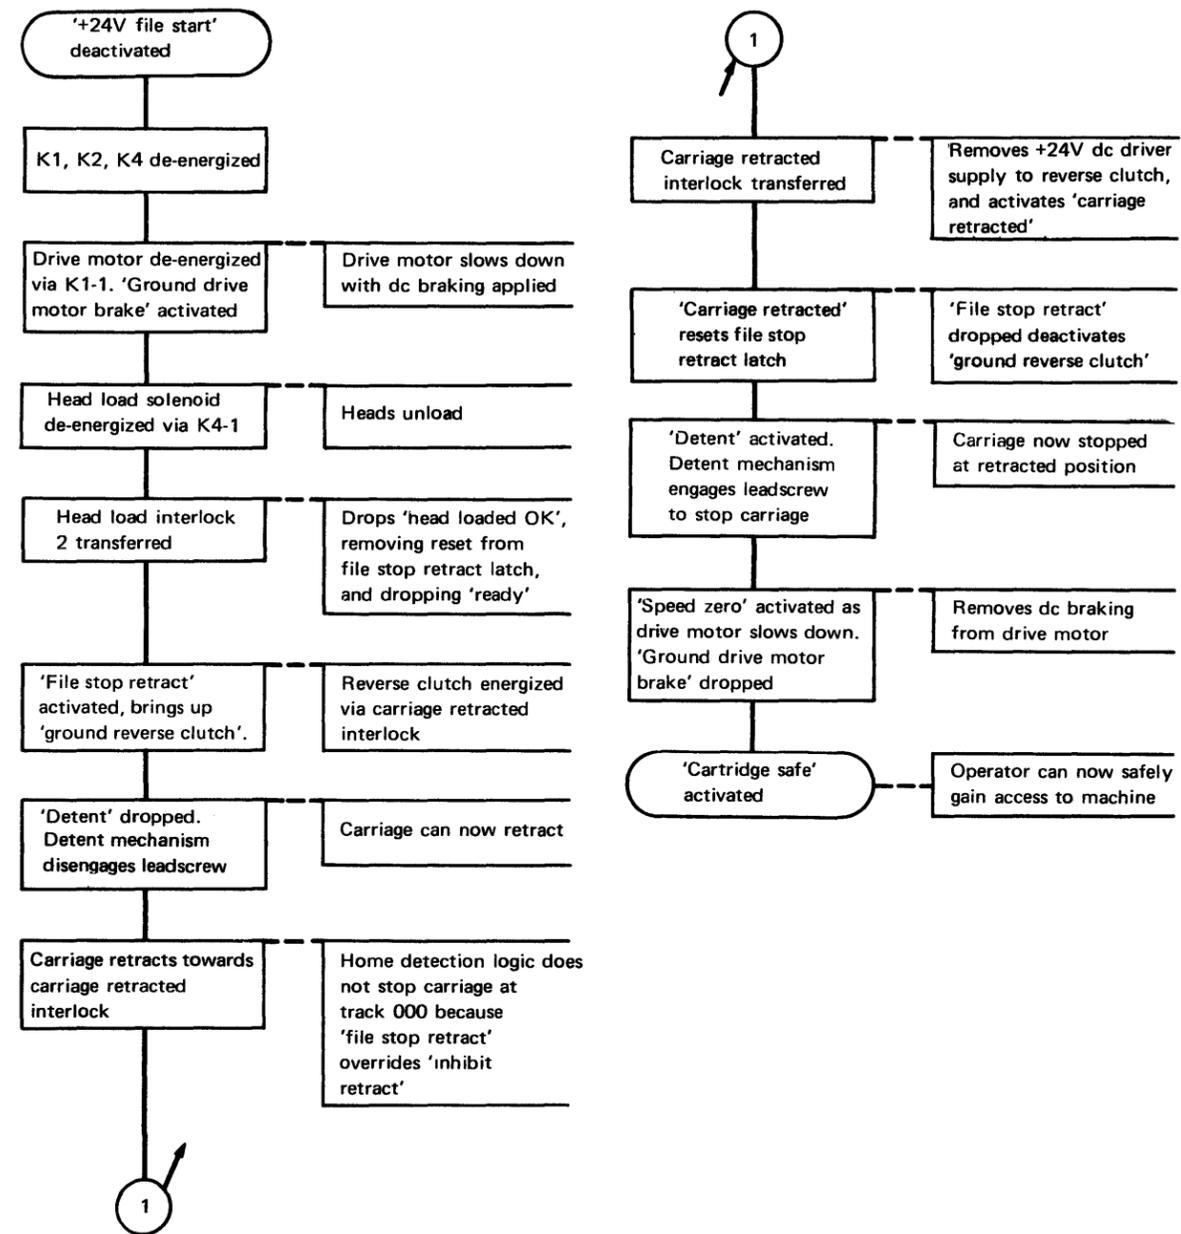

Figure 1-50. Machine Stop Sequence [07511]
- The machine stop sequence is shown in Figure 1-50.